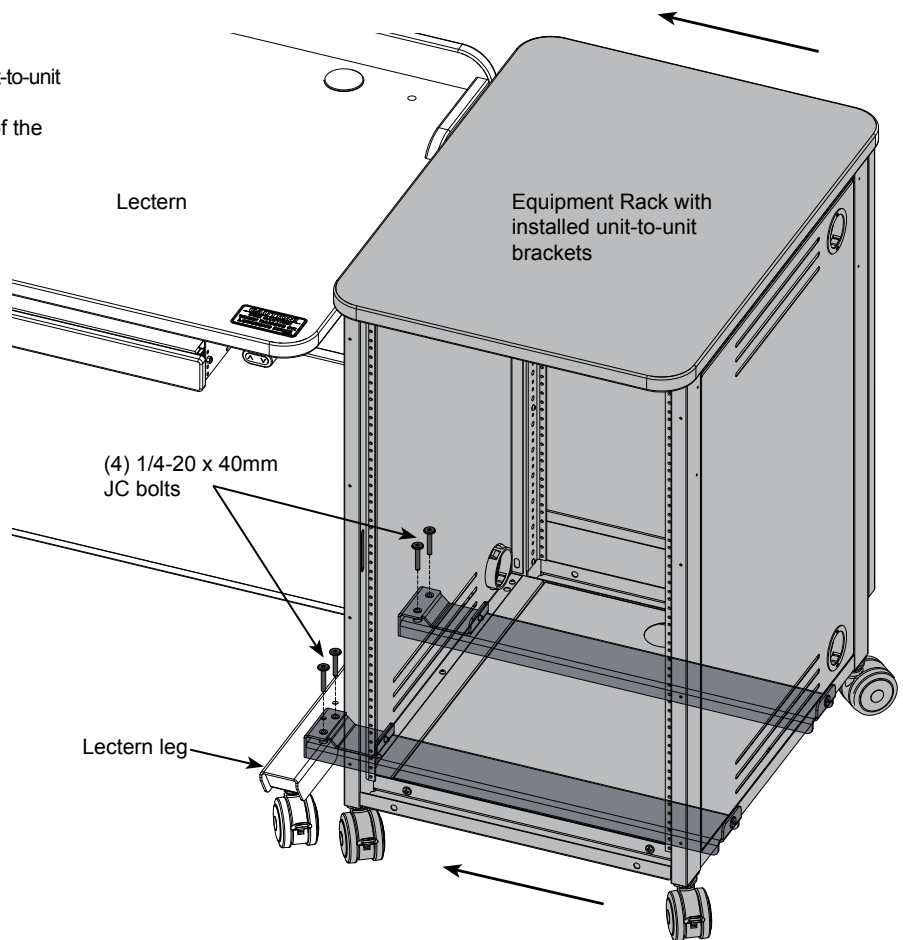

Figure 3B
4. Install (4) 1/4-20 x 40mm JC bolts through the top of the lectern leg and tighten securely. **Figure 3B.**